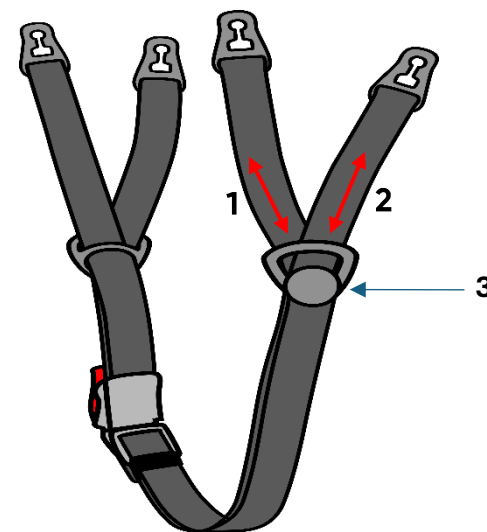

Fig. 3
The chin strap is an essential part of the helmet required to maintain the helmet on the head. The chin strap (Fig. 3) features length adjustment individually for the left and right sides of the strap. For each side, the length of the front section (1) and rear section (2) can be altered by sliding the strap through the splitter (3).